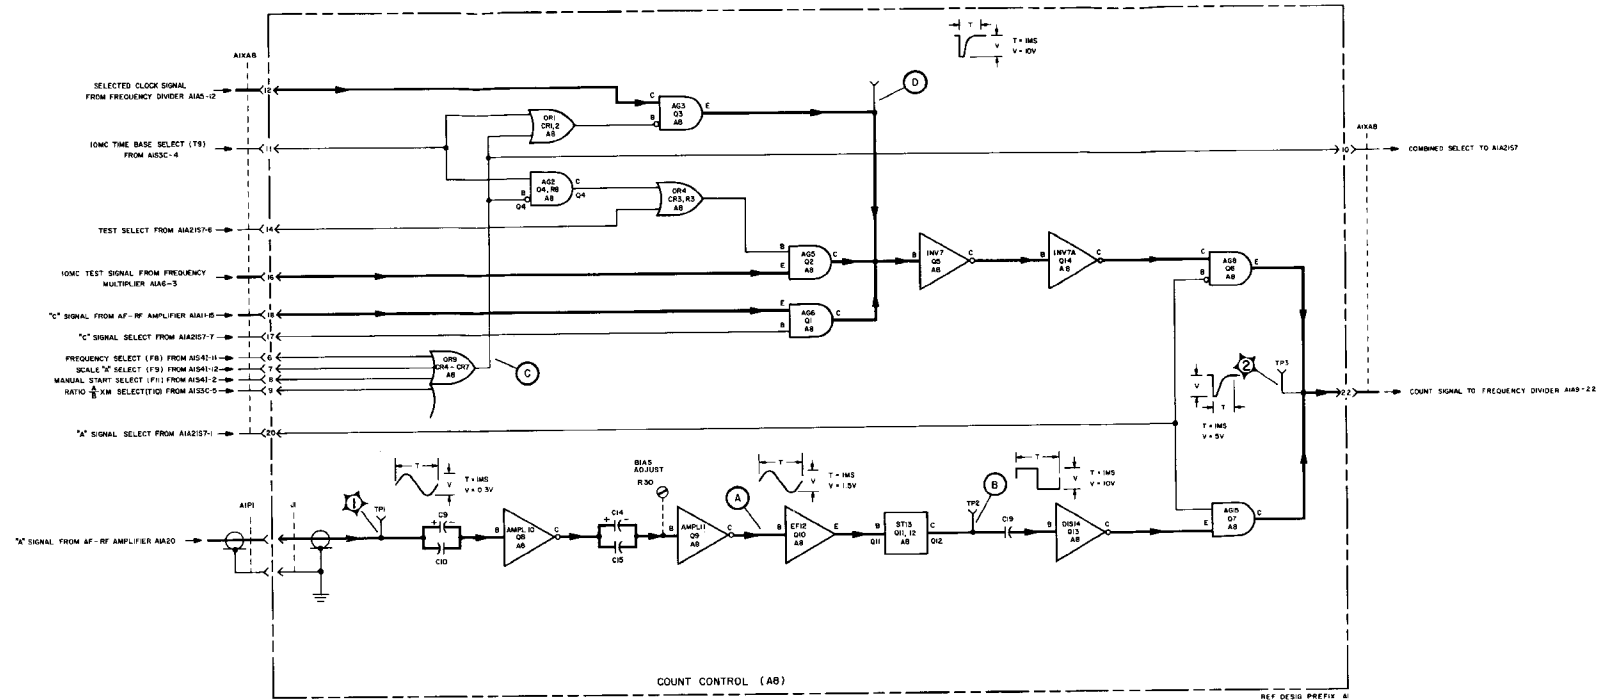

Figure 4-17. Count Control, Functional and Servicing Block Diagram
a. COUNT CONTROL FUNCTIONAL DESCRIPTION. - The count control consists of circuits which select the proper count signal to be supplied to the count decades. This functional section is constructed on one printed circuit board (A1A8). Figure 4-17 is the functional and servicing block diagram of the count control.
c. USEFUL ILLUSTRATIONS. - Illustrations useful in maintaining this functional section are: figures 4-17, 5-43, and 5-70.